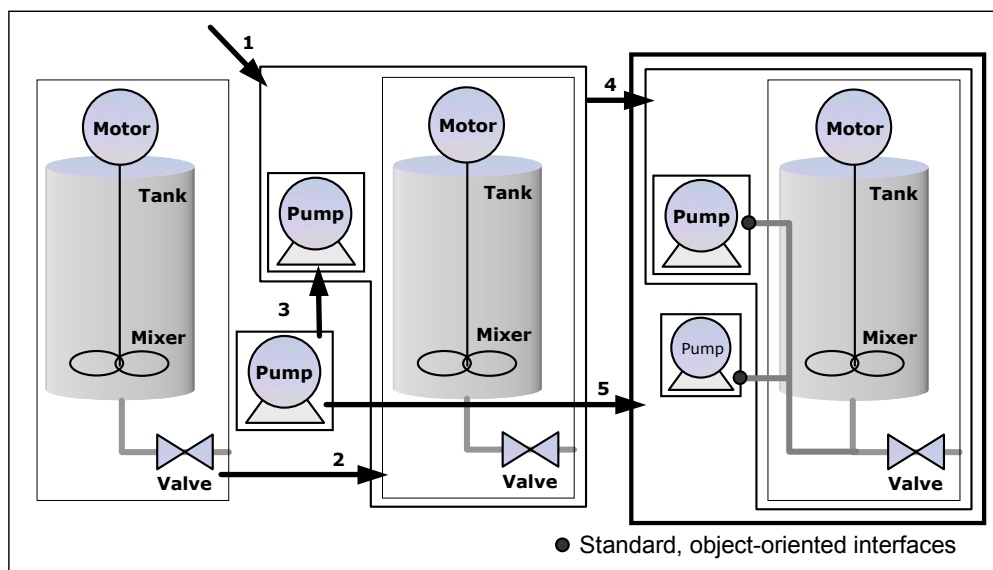

Fig. 9 Re-use working principle.
In example 1, we saw how an application structure could be expanded along its top level. Here, we will see that the control module concept and the code sorting mechanisms apply equally well to hierarchical structuring (that is, control modules within control modules) in any number of levels. In other words, we can rather easily combine basic types with more specialized ones to form new types that suit our needs. Consider two existing control module types, one that represents a reactor and one that represents a pump (Fig. 9). The reactor type contains one sub-control module instance each of a valve and a motor running a mixer. Now say that we need another reactor type, one that includes the pump as well. We create a new, empty type (1) and insert one instance each of the reactor type (2) and the pump type (3). One day, the need to more accurately control a flow somewhere else in our plant arises and we need a reactor type with one more pump, a smaller one. We copy our new reactor type, rename it (4) and insert a new instance of the pump type (5). (The free graphical layout permits us to draw the lower-capacity pump a bit smaller than the other for clarity).